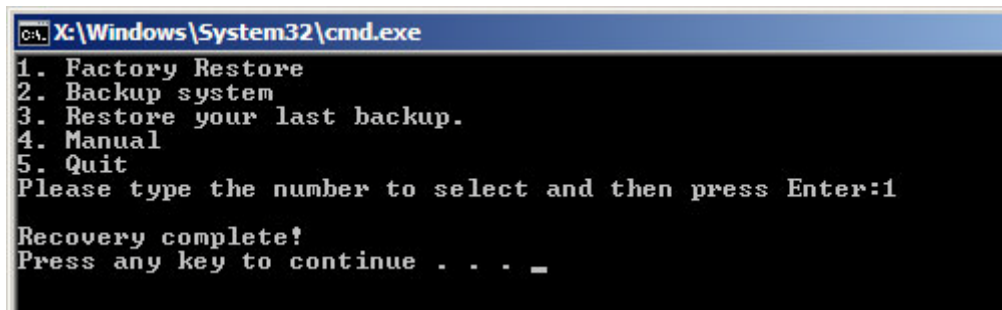

Figure C-35: Recovery Complete Window
Step 3: The screen shown in **Figure C-35** appears when completed. Press any key to reboot the system.